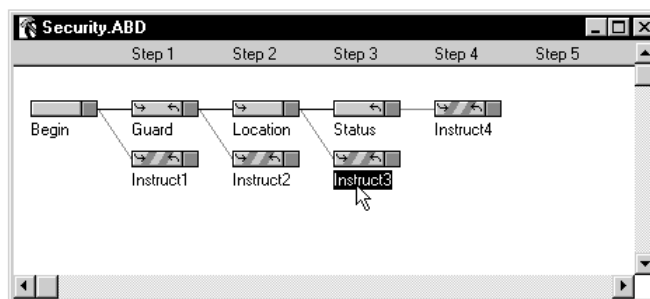

Figure 4-71 “Instruct3” Handler Selected
44. Select the “Instruct3” Handler (Figure 4-71). The “Instruct3” Handler will be stepped to if the user does not scan a valid status bar code. In this example we are assuming the status bar codes are on the scanpad being carried by the guard, so we will use **Scan Status bar code on scanpad.** as our instruction message.